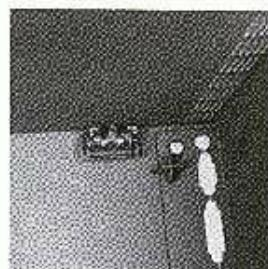

Figure 2-18
2. While holding the prongs apart, insert the spring clip under the tabs of the two outermost plastic prongs. (See Figure 2-17) Remove the tool from the slot. You should end up with the clip positioned in the slot as shown in Figure 2-18.